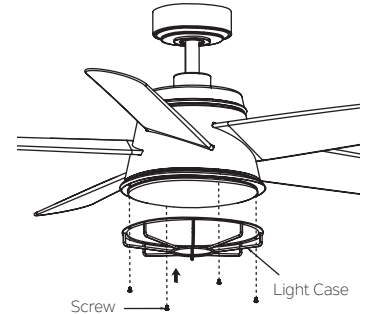

Fig. 23
**Step 3.** Hold the light case up to the switch housing, align with 4 holes and securely tighten with 4 screws found in the hardware pack.(Fig. 23)